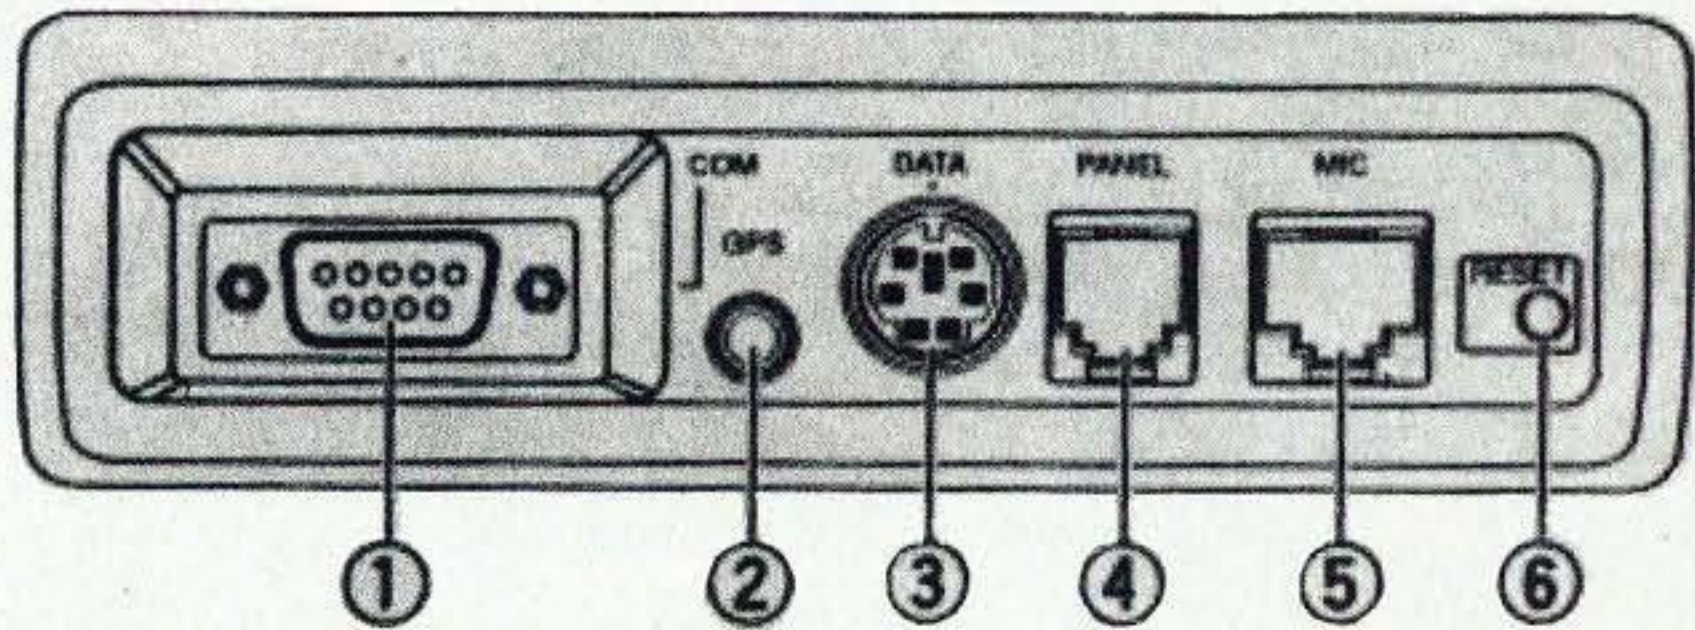

Fig. 1. Main unit front panel.
The main unit has connections located on both the front and rear. On the front (Fig. 1) there is a DB-9 connector (1) used to connect to the serial port of a computer. The computer can be used to load or store frequencies to be memorized, as a terminal for packet radio operations, and to perform other control functions.